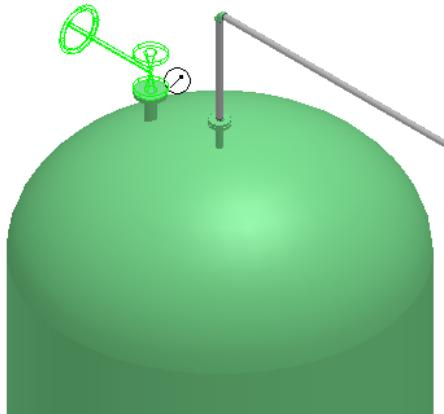

Figure 7: Gate Valve in the Graphic View
8. The **Gate Valve** in the graphic view before accepting the placement appears as shown in Figure 7.